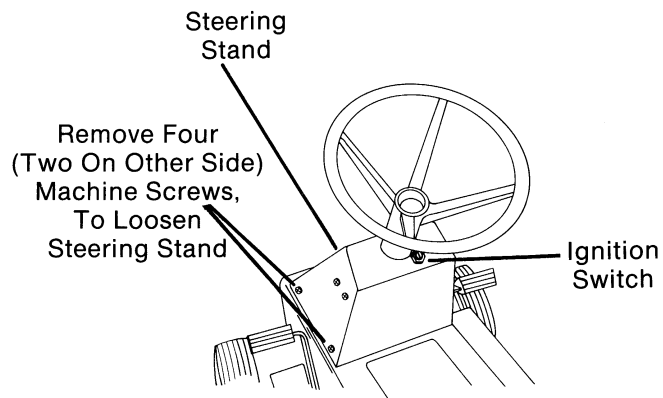

FIG. 35
- Remove four machine screws holding steering stand to main frame. (Fig. 35) Raise steering stand guiding both mower drive engagement rod and steering shaft through holes in main frame.